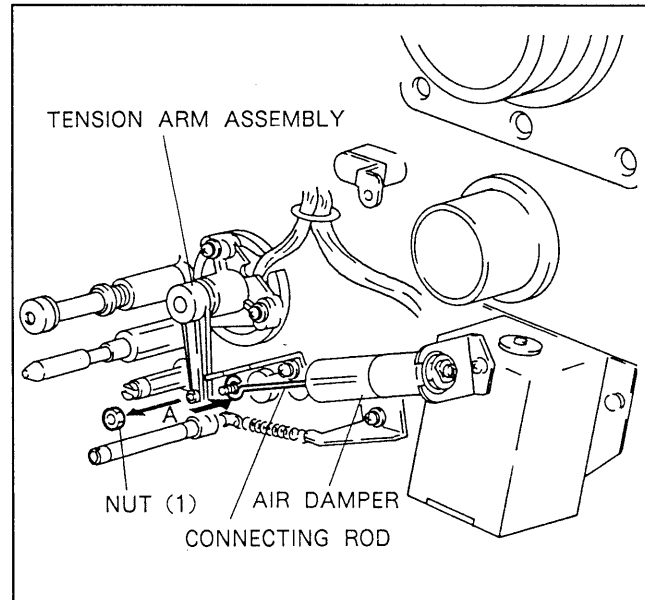

Fig. 6-20-1. Air Damper Removal (1)
1. Remove the nut (1) shown in Fig. 6-20-1 from the tension arm assembly. (Opposite side : 5.5 mm)